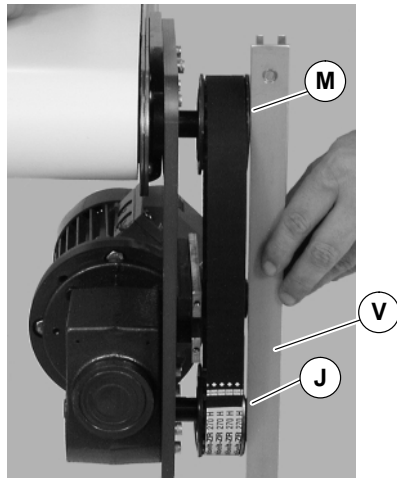
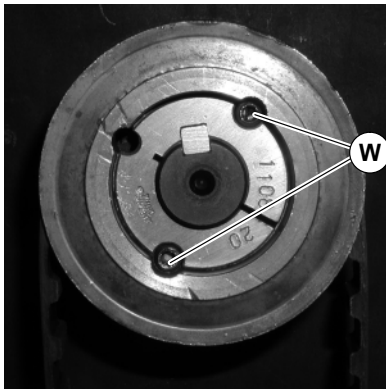

Figure 9
Figure 10
6. Wrap timing belt (Q) around driven pulley (M) and drive pulley (J). Install driven pulley (M) onto conveyor shaft.
7. Using a straight edge (V of Figure 9), align driven pulley (M) with drive pulley (J). Tighten driven pulley taper-lock screws (W of Figure 10).